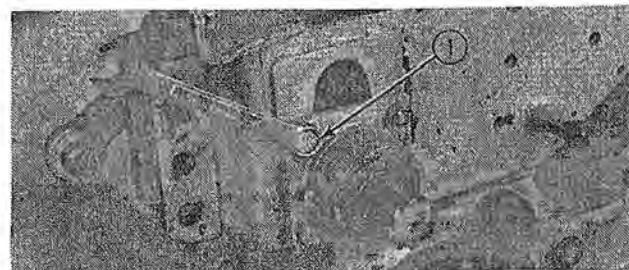

FIG. 3
Remove the (4) 10 mm. bolts that secure the bushing carrier to the main support frame. (1, Fig. 3)